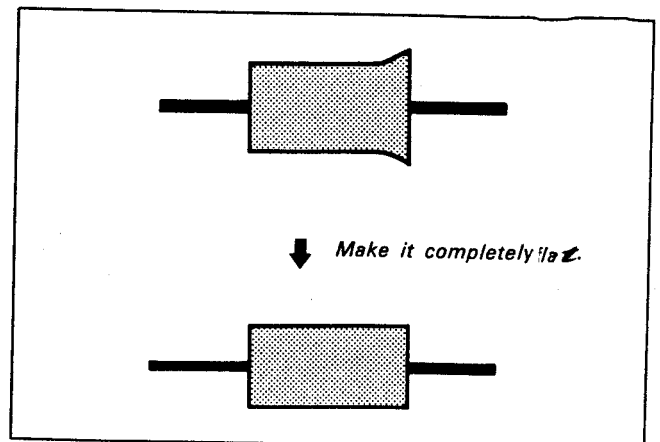

Fig. 4-16
- 6) Turn No.4 guide so that waveform flat (Fig. 4-16)